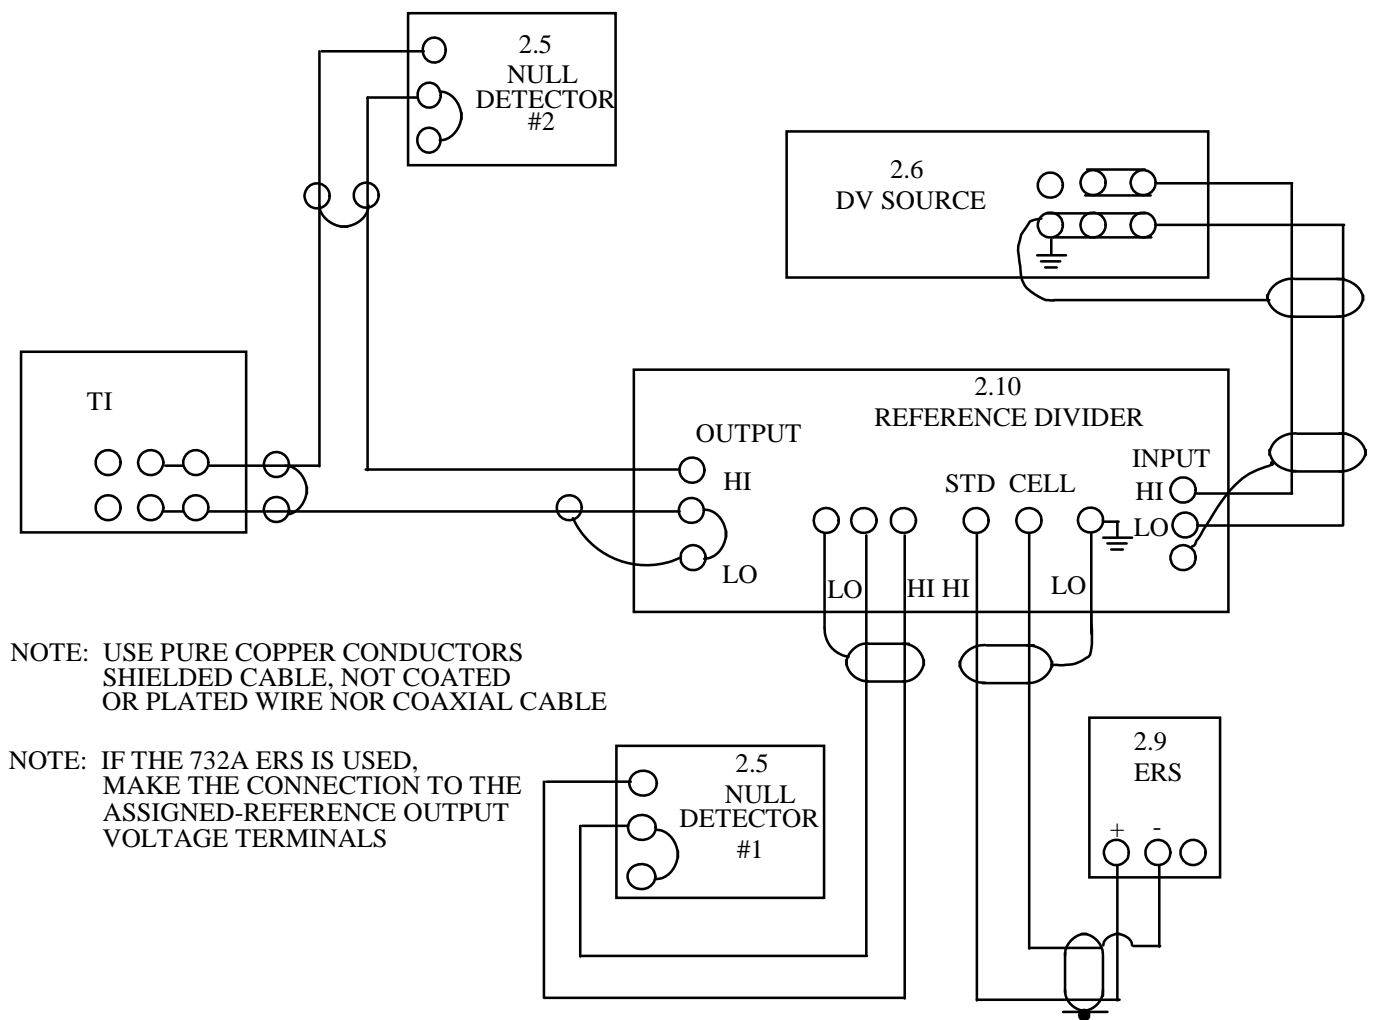

Figure 5. Output Voltage Test Configuration (Using Two Null Detectors)
4.4.5 Connect the equipment as shown in Figure 5.